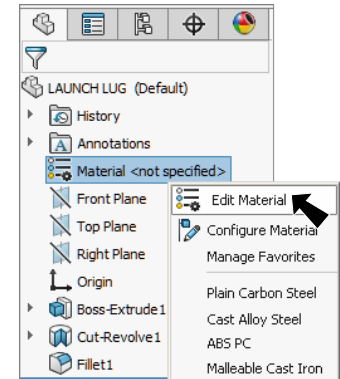

Fig. 36
Step 1. **Right click Material**  in the Feature Manager and click **Edit Material**, Fig. 36.